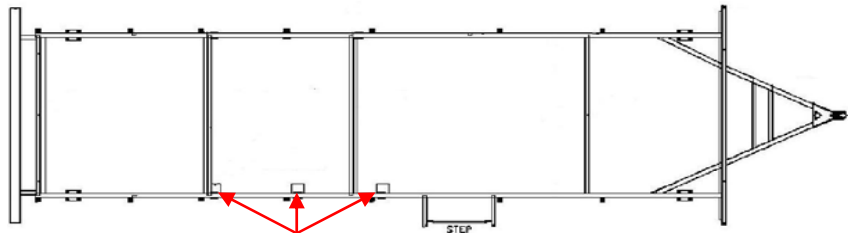

Fig. 5 - placement of 2" x 3" aluminum tabs
- Install three 2" x 3" aluminum tabs on the frame adjacent to the axle hangers as shown in figures 5 & 6. Each tab should be installed with two 1/4" x 1" self drilling hex head screws. (Note: these will be installed through the underbelly liner into the frame.)